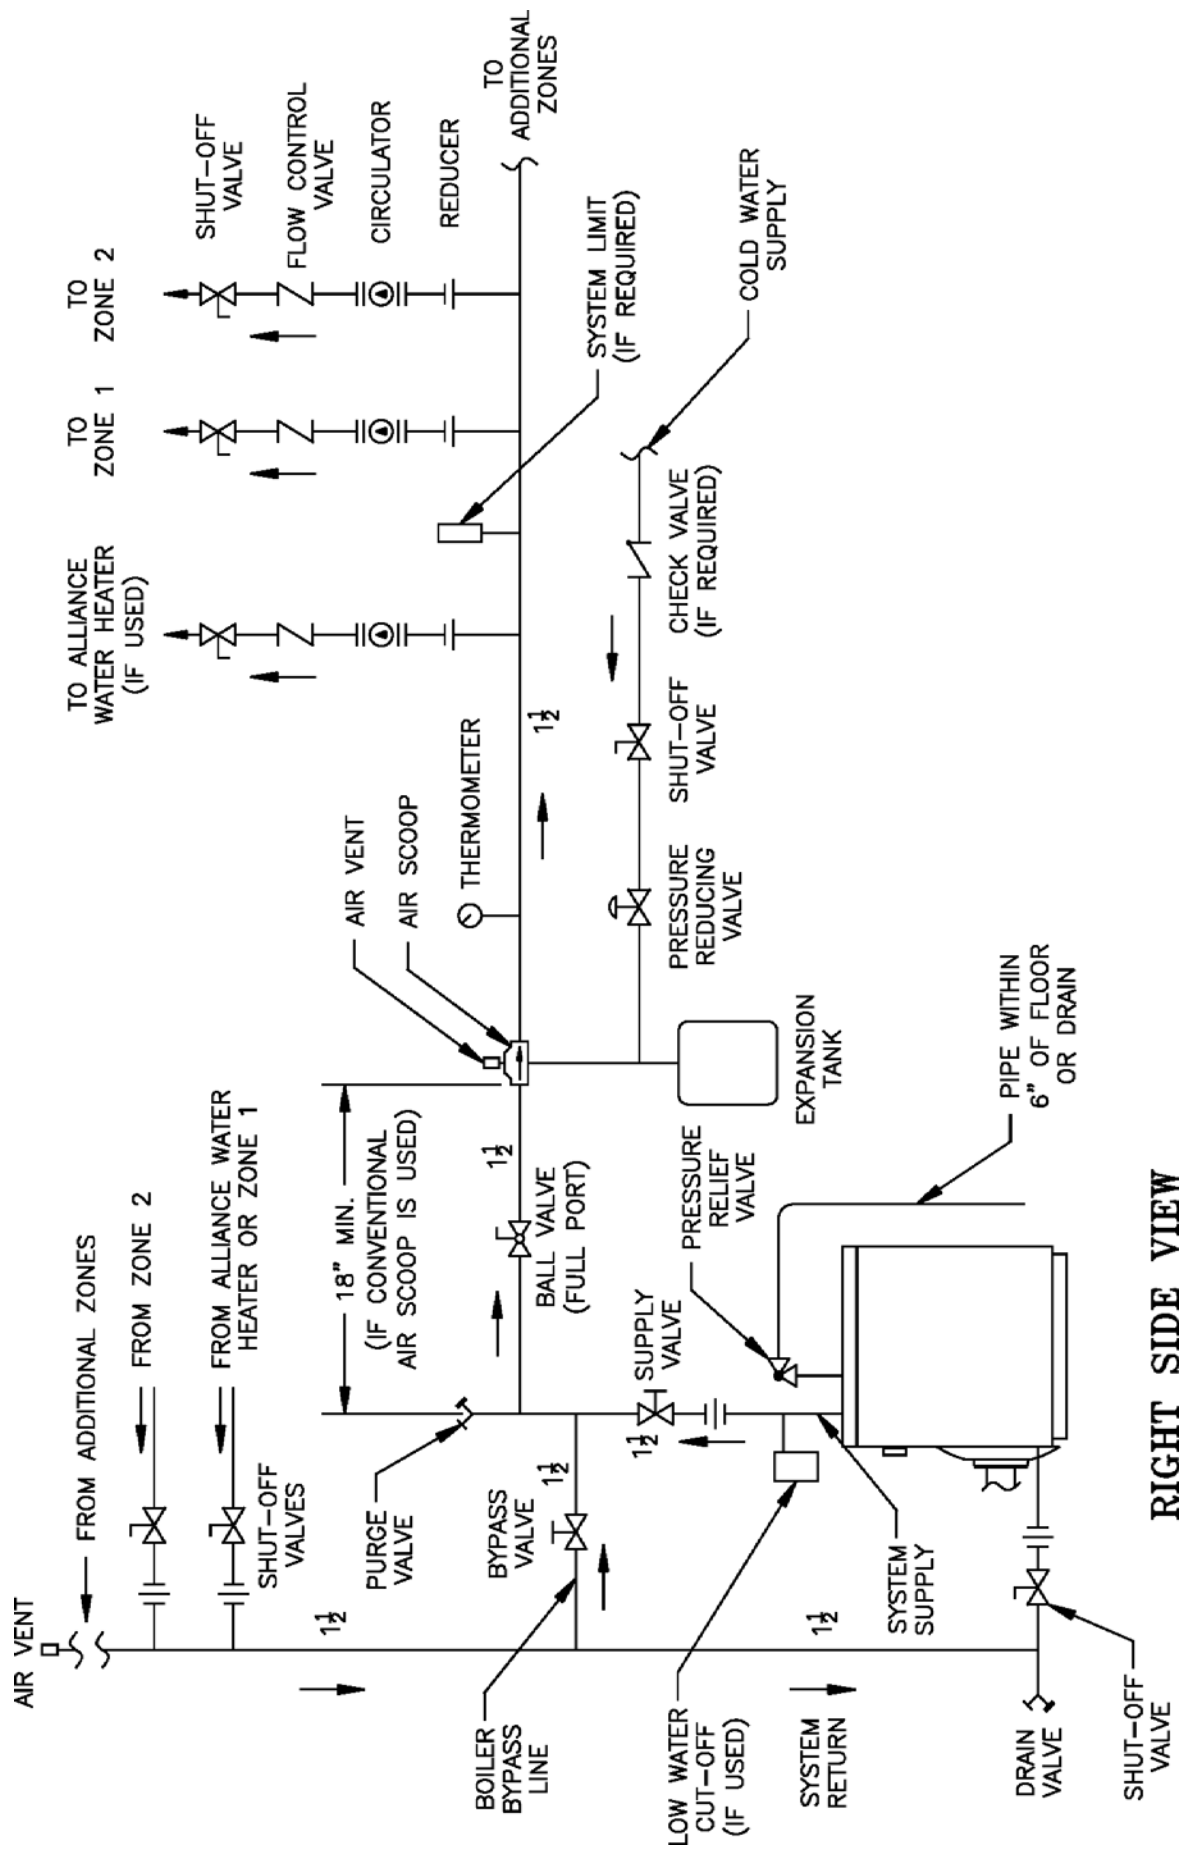

Figure 13A: Water Boiler Piping for Circulator Zoned Heating System
Use 3/4" NPT x 8" nipple and/or 3/4" NPT coupling included in trim bag. Safety or Relief Valve must be installed with spindle in vertical position. Pipe discharge as shown in Figures 13A, 13B, 13C and 14. Installation of the safety or relief valve must be consistent with ANSI/ASME Boiler and Pressure Vessel Code, Section IV.
B. CONNECT SYSTEM SUPPLY AND RETURN PIPING TO BOILER. See Figures 13A, 13B and 13C. Also, consult I=B=R Installation and Piping Guides.
4. Use a boiler bypass if the boiler is to be operated in a system which has a large volume or excessive radiation where low boiler water temperatures may be encountered (i.e. converted gravity circulation system, etc.) The bypass should be the same size as the supply and return lines with valves located in the bypass and return line as illustrated in Figures 13A, 13B and 13C in order to regulate water flow for maintenance of higher boiler water temperature.